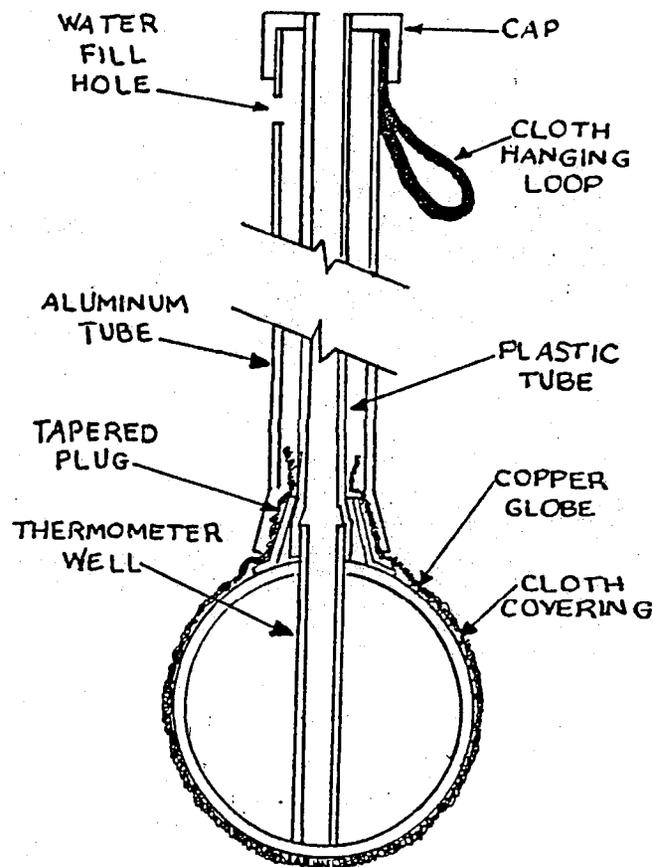

Figure 1. --Botsball Thermometer.
a. The Botsball Thermometer (NSN 6665-01-103-8547) is a device which combines the air temperature, humidity, wind, and thermal radiation into a single index indicated on a dial thermometer (see figure 1 of this enclosure). This index, however, differs in value from the Wet Bulb Globe Temperature (WBGT) Index by approximately 1.74°F. The variation in value results from the difference in the method of obtaining the wet globe temperature in the Botsball. The relationship of the WBGT Index to the Botsball temperature is expressed below: